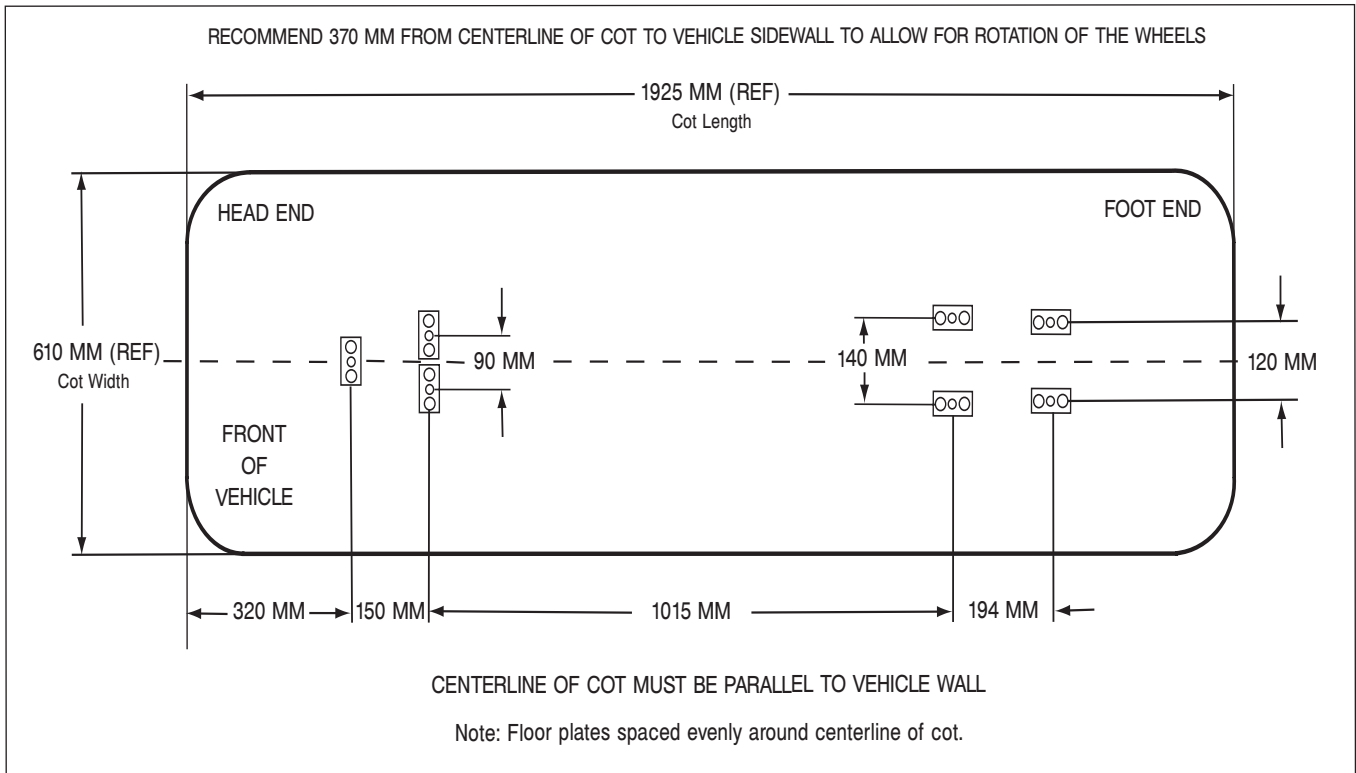

Figure 1: Floor Plate Installation Locations
2. Using the dimensions shown in Figure 1, locate and drill the points where the floor plates will attach.